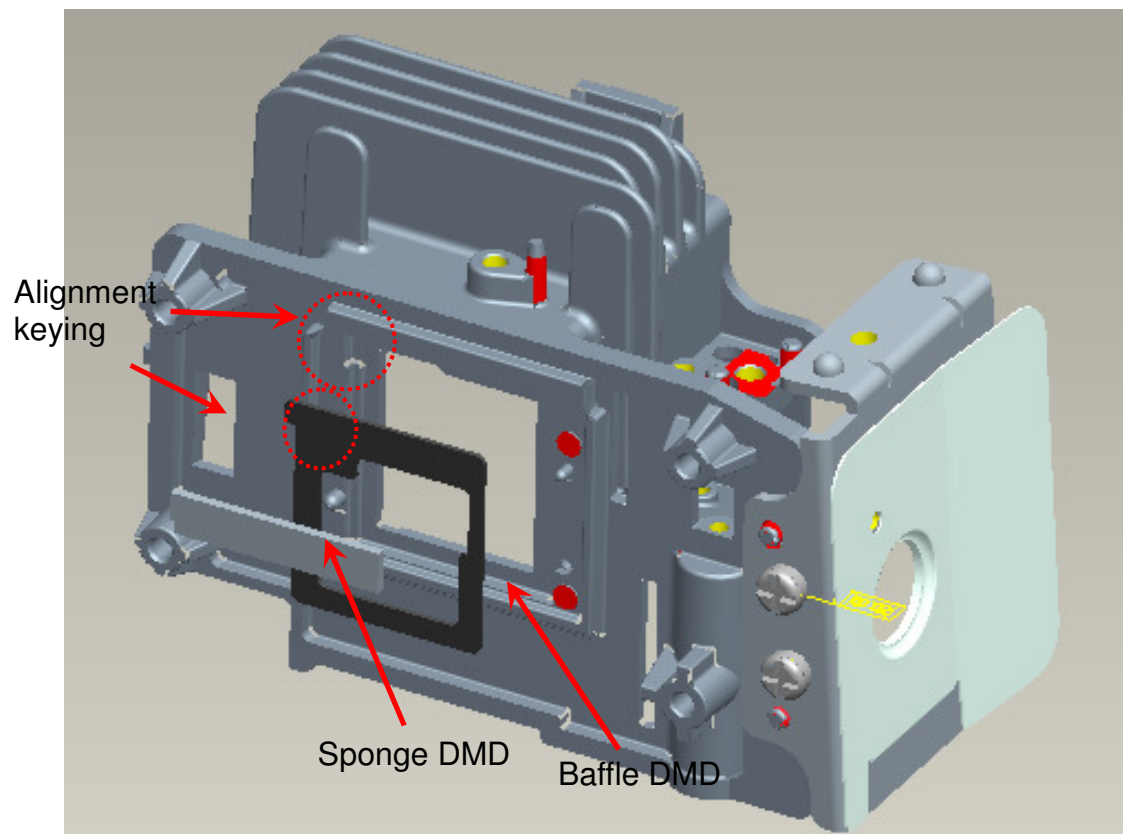

Fig.7-1-1
7.1 Assemble "Baffle DMD" to "HSG DMD" (Fig.7-1-1, 7-1-2).
7.2 Assemble "Sponge DMD" to "HSG DMD" (Fig. 7-1-1, 7-1-2)